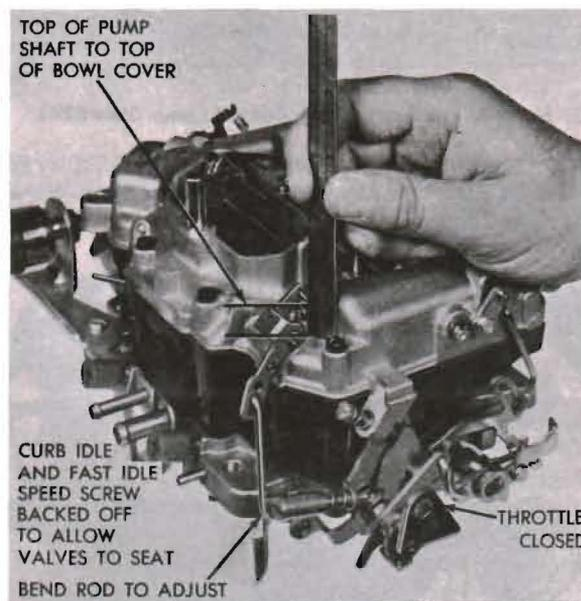

Figure 24. Adjusting the Accelerator Pump Stroke
- (1) Move the choke valve to wide open position, to release the fast idle cam. Back off the idle-speed adjusting screw (curb idle) until throttle valves are seated in bores. Make sure the throttle connector rod is installed in the specified hole of accelerator pump arm.
- (2) Close the throttle valve tightly and measure the distance between top of bowl cover and end of plunger shaft. (See figure 24.) This measurement should be as specified for the particular carburetor being serviced.